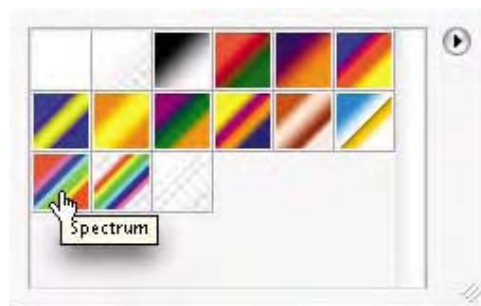

Fig. 9-12-10 Select the gradient named **Spectrum** as seen here. The tool tips will provide the gradient name if you place your cursor over the gradient.
6. On the option bar, click on the **Gradient Palettes** pop-up menu and pick the gradient named **Spectrum** (the first gradient from the left on the bottom of this palette, seen in Fig. 9-12-10). If you move the cursor over each gradient, its name will be seen in the tool tips. Click the title bar of the document you made or the option bar to dismiss the gradient palette.
3. On the option bar, click the **Gradient Palettes** pop-up menu and pick the gradient named **Spectrum** (the first gradient from the left on the bottom of this palette, seen in Fig. 9-12-10). If you move the cursor over each gradient, its name will be seen in the tool tips.